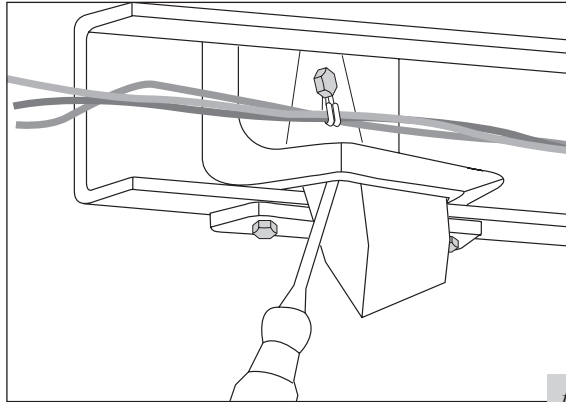

fig. 3
1. Use a screwdriver to remove or pry the rubber jounce bumper from the metal bracket on the frame rail (Figure 3). This will not be reused.